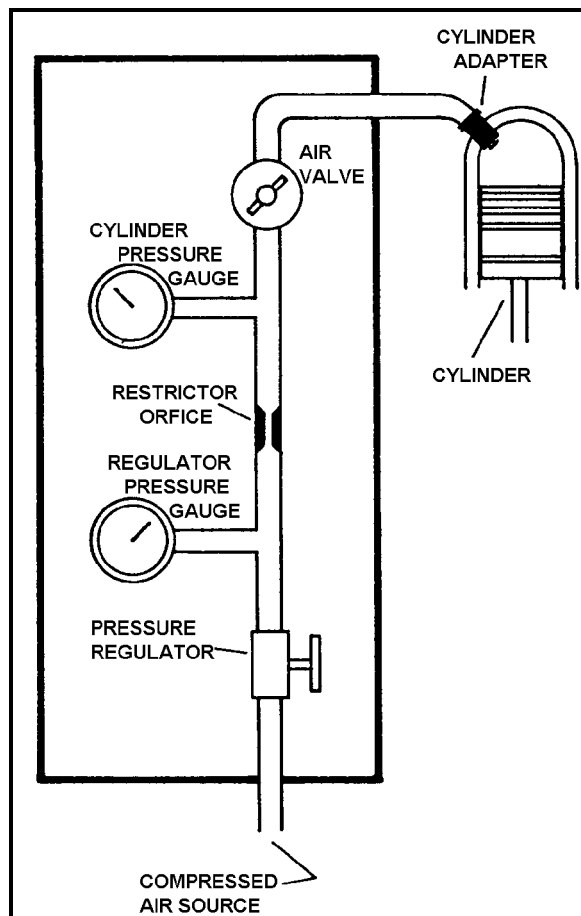

FIGURE 8-1. Schematic of differential pressure compression tester.
(1) For an engine cylinder having less than a 5.00-inch bore; 0.040-inch orifice diameter; .250 inch long; and a 60-degree approach angle.
(2) For an engine cylinder with 5.00 inch bore and over: 0.060 inch orifice diameter, .250 inch long, 60 degree approach angle.
(3) A typical schematic diagram of the differential pressure tester is shown in figure 8-1.